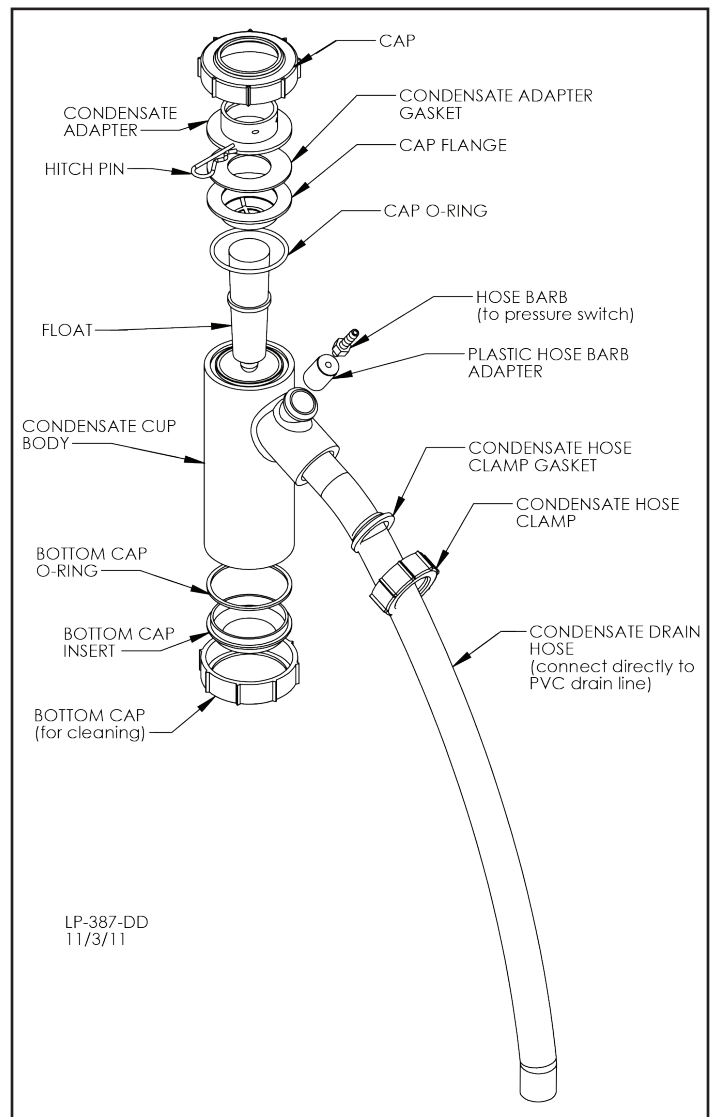

Figure 24 - Condensate Detail
1. Ensure all parts shown in Figure 24, Condensate Detail, are included with the condensate trap. If any parts are missing, **DO NOT** install the trap. Replace the entire condensate assembly.